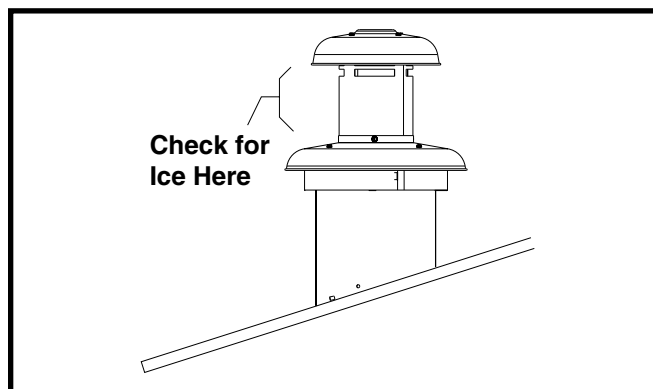

Figure 37. Roof Jack
- During extremely cold weather, ice may form on the furnace roof jack (Figure 37). Small amounts of ice forming on the roof jack will present no problems to proper furnace operation. Excessive ice formation could restrict the combustion air supply to the burner, causing inefficient burner operation. If excessive ice has formed on the air inlet or exhaust portions of the roof jack, it must be carefully removed.